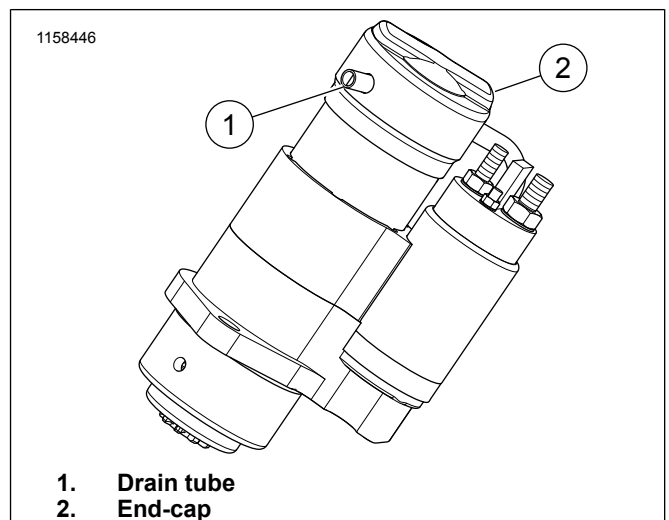

Figure 8. Installing Drain Tube
23. Figure 8 Pull the end-cap (2) over the drain tube (1).